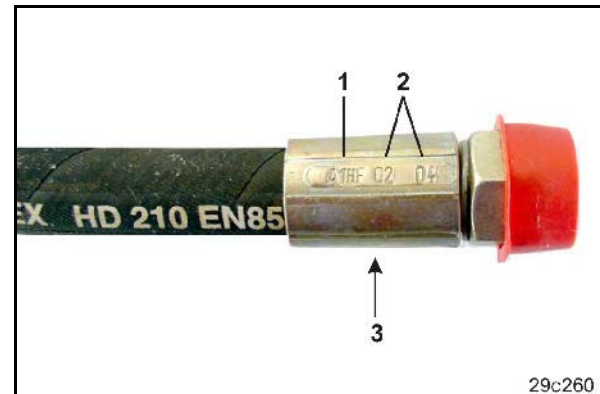

Fig. 61
1. Unscrew the magnetic cap (Fig. 61/1)
2. Remove the solenoid (Fig. 61/2)
3. Unscrew the valve rod (Fig. 61/3) with valve seats and clean with compressed air or hydraulic fluid.